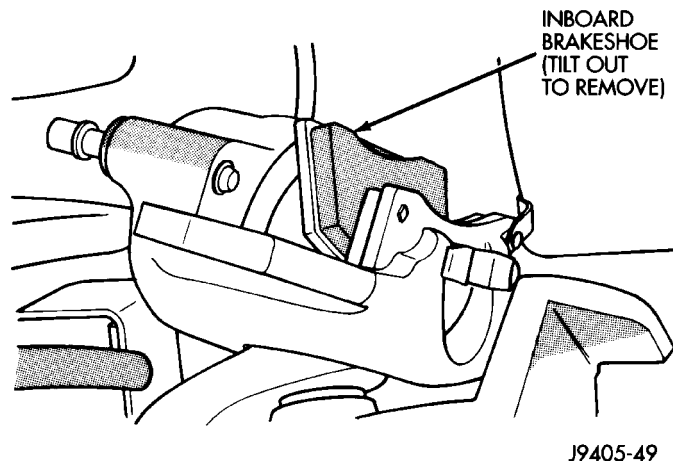

FIGURE 1 - Inboard Brake Lining Removal
6. Remove and discard inboard brake lining by tilting the shoe at the top to unseat the retaining spring clip (Figure 1).